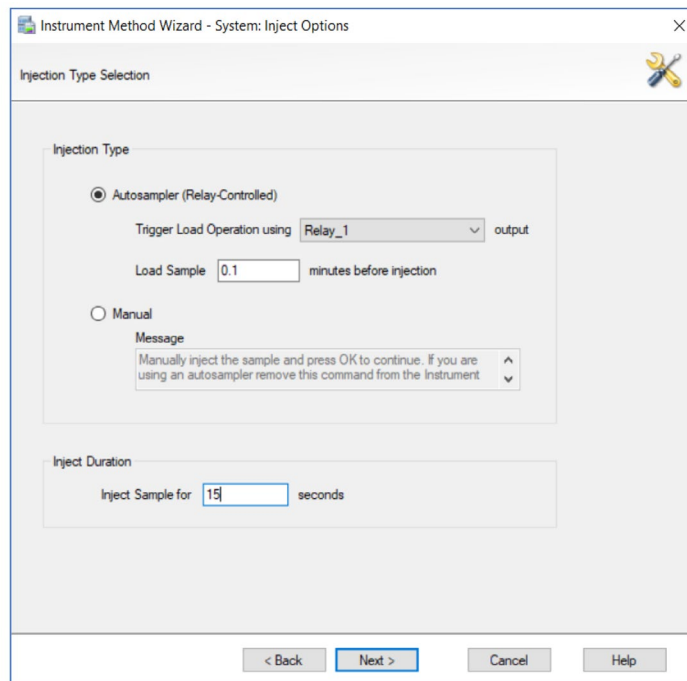

Figure 22. Creating the Instrument Method: Injection Type Selection settings
- Enter the IC conditions on the next tabs. On the Injection Type Selection settings tab, enter 0.1 min to load the sample and 15 s to inject the sample (Figure 22).